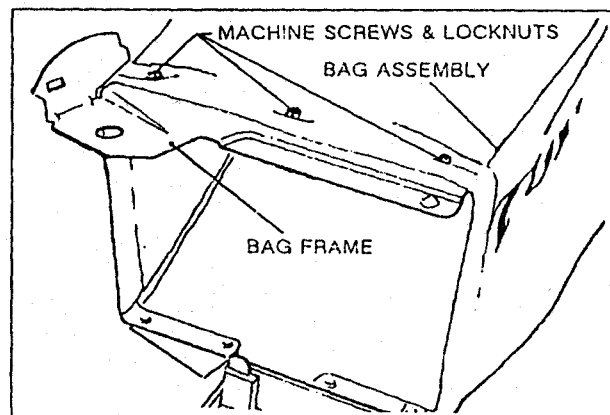

Fig. 4
4. Slide bag frame diagonally into bag assembly. Position bag frame at top and align holes. Secure with (3) machine screws and locknuts (Fig. 4).